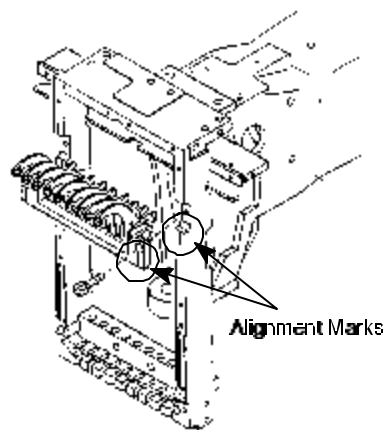

Figure 6
12. **Adjust** Take-Up Lever Assembly Alignment Marks to Slide Block Alignment Marks. *See Figure 6.*